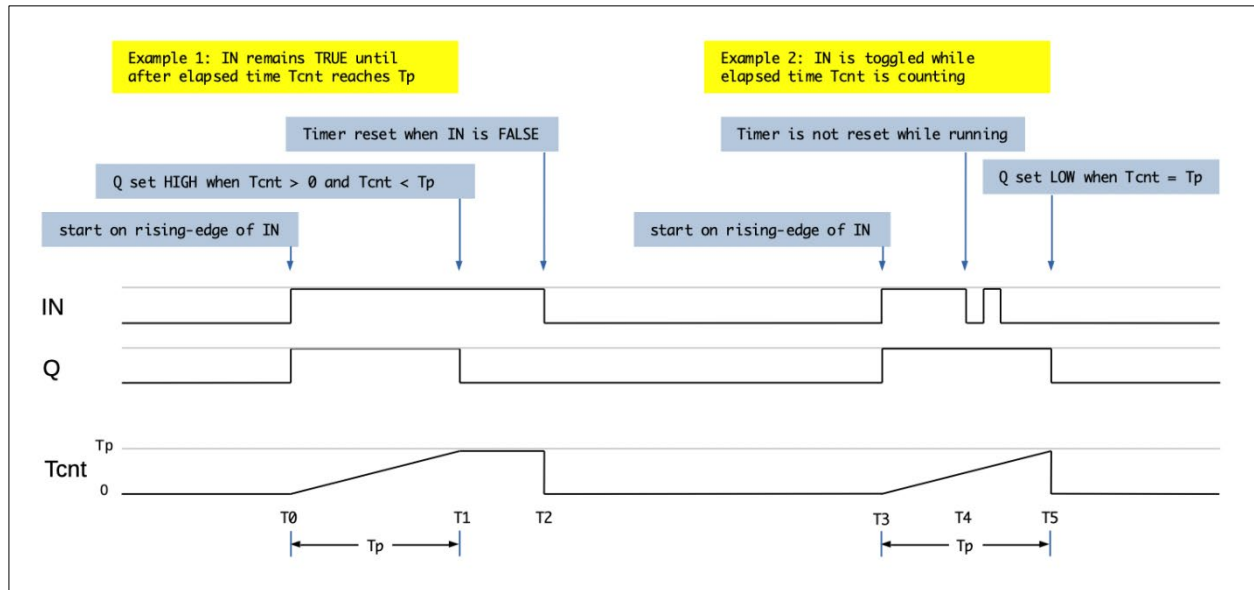

Figure 47 - Timer PULSE Function
Figure 47 - Timer PULSE Function shows the timer's output (Q) as a function of the input (IN) state, elapsed time (Tcnt), and the user defined timer period (Tp).